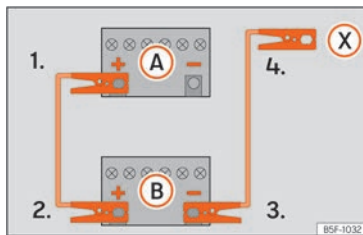
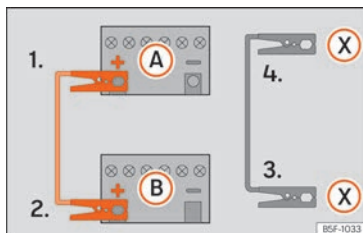

Fig. 209 Diagram of connections for vehicles without Start Stop system
Fig. 210 Diagram of connections for vehicles with Start Stop system
The jump leads should only be connected in the order **1 > 2 > 3 > 4** »» Fig. 210.
- Vehicles without a Start-Stop system:* connect one end of the black jump lead to the negative terminal **-** of the vehicle providing the current **B** »» Fig. 209. *Vehicles with a Start-stop system:* connect one end of the black jump lead **X** to a suitable ground terminal, to a solid piece of metal in the engine block, or to the engine block itself »» Fig. 210.